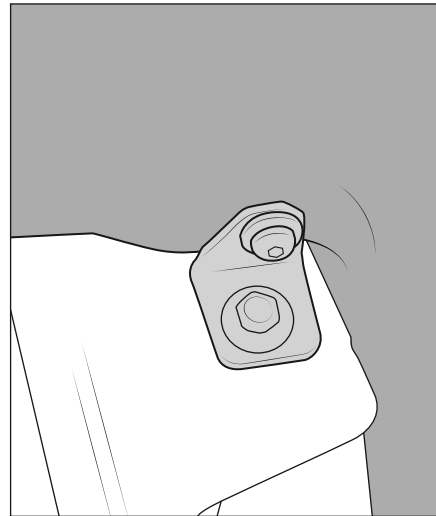

Figure 12
- Install the front mounting bracket using the front fender bolt. Place bracket over fender hole, loosely reinstall fender bolt, and bolt bracket into snorkel threaded insert with provided M6 bolt and washer (fig. 12). Tighten both until snug, but not fully torqued. Adjust lower snorkel body and brackets so that they sit